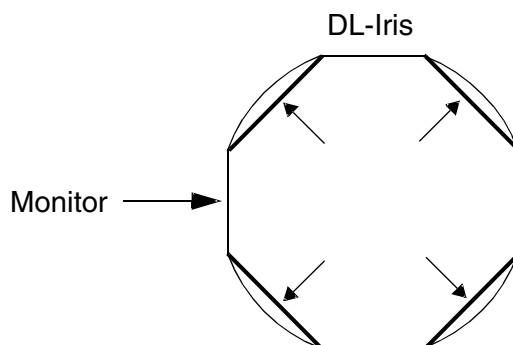

Fig. 8
- Check whether all collimator blades are visible and symmetrically adjusted (Fig. 8).